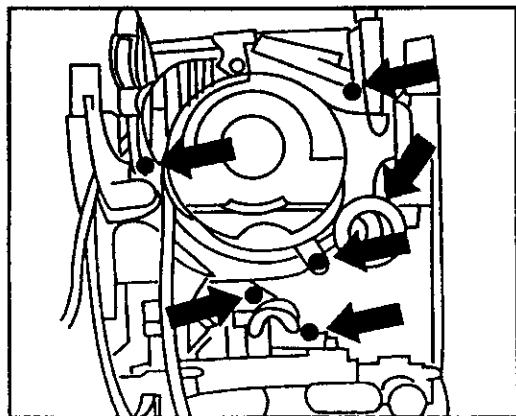

Fig. 19
2. Remove (6) screws (Fig. 19)